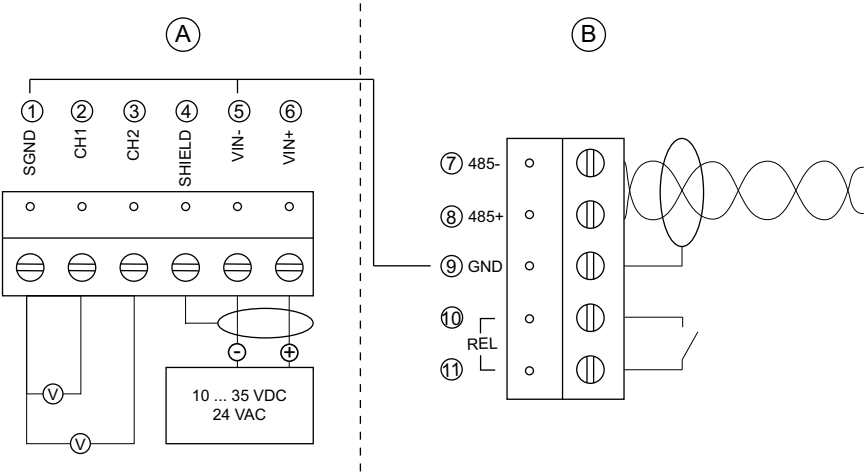

Figure 12 Power Supply and Voltage Outputs (A), and Serial Communication and Relay (B)
- 1) Numbers 1 ... 6 in the first column of the wiring table refer to section (A) and numbers 7 ... 11 to section (B) in Figure 12 \(page 22\).
- 2) There is an internal connection between numbers 1 and 5 on section (A) and number 9 on section (B).
- 3. Connect the wires as indicated in Figure 12 \(page 22\) and in Table 4 \(page 22\). Suitable wire size is 0.5 ... 1.5 mm².